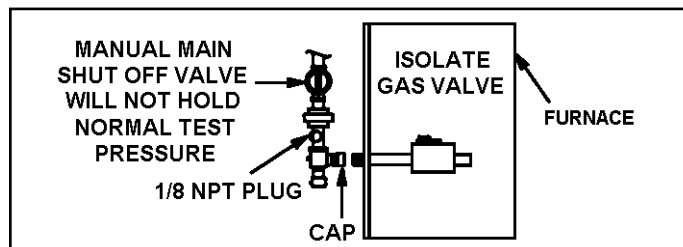

Figure 20.
5. A 1/8" N.P.T. plugged tap or pressure post is located on the gas valve to facilitate test gauge connection. See Figure 20.
When testing pressure of gas lines, gas valve must be disconnected and isolated. See Figure 20. Gas valves can be damaged if subjected to pressures greater than 1/2 psig (3.48 kPa, 14 inches w.c.).